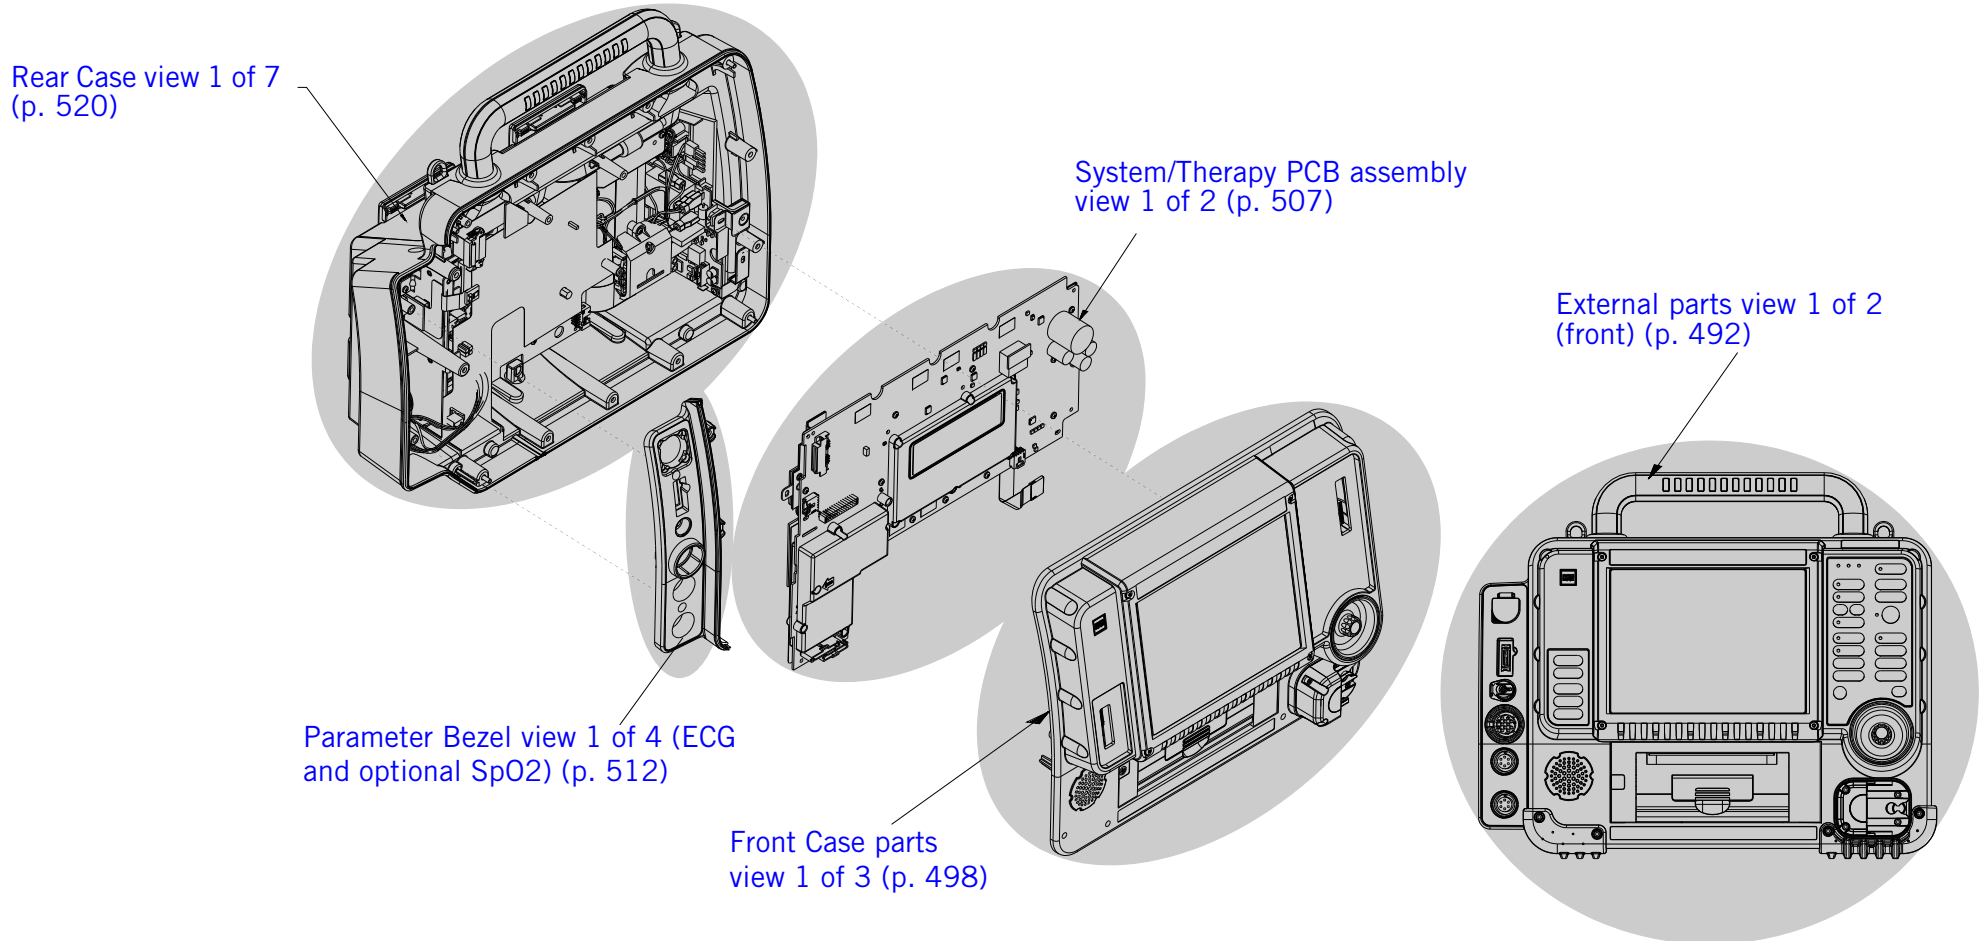

Figure 11.1—Assembly diagram configurator
- Assembly Diagram Configurator (Figure 11.1 on p. 489)—shows the main parts of the device with links to detailed assembly diagrams.